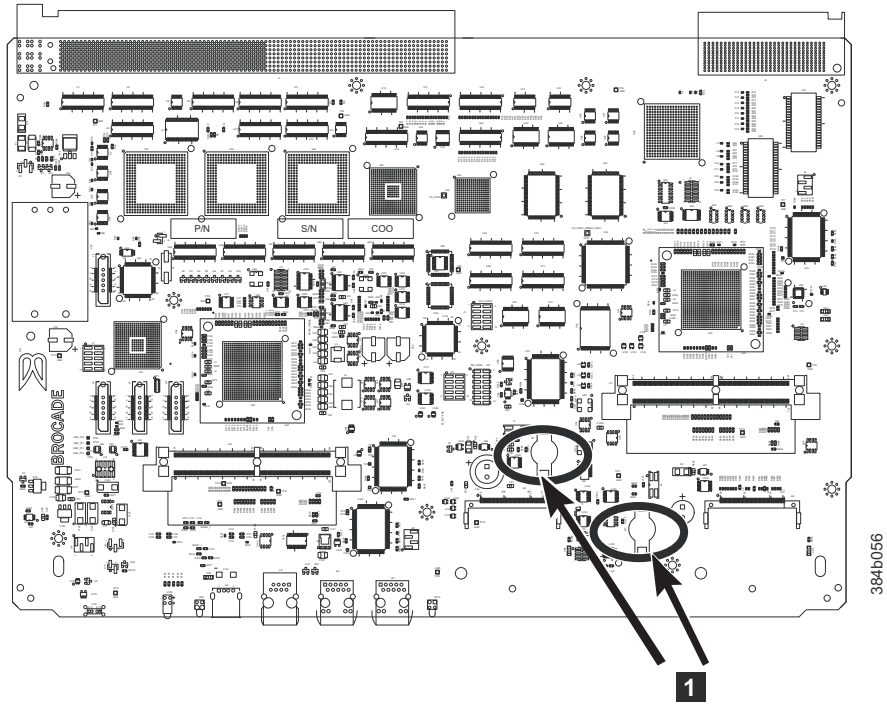

Figure 44. Battery locations on the CP8 blade
6. Go to the following locations and remove the two BR1225 batteries from each of the PCBAs (see **1** in Figure 44 on page 108):